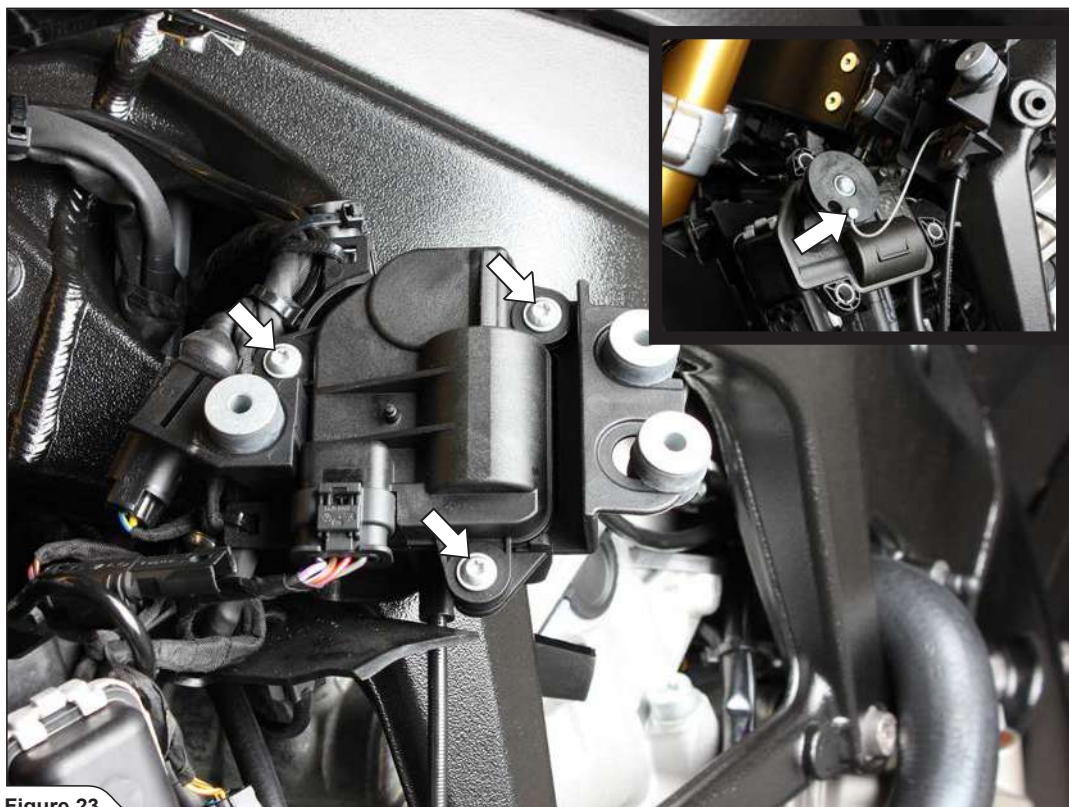

Figure 23
18. Unscrew the servo motor's cover, remove the cables and reinstall the cover (Figure 23).